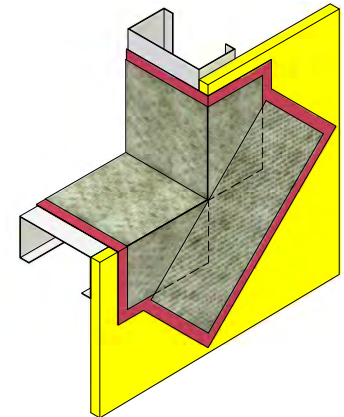

Figure 24
4. Cut WS FLASH to desired size. Remove release film immediately before application. Using a roller firmly press the WS FLASH keeping the membrane smooth. (See Figure 24)